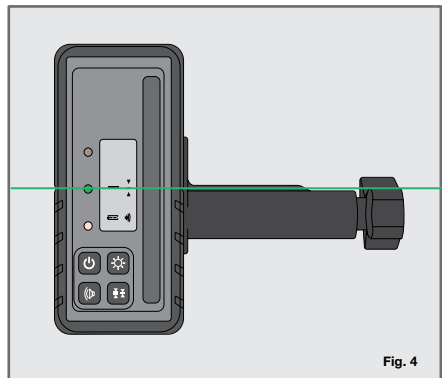

Fig. 4
- The direction arrows or level line on the LCD screen will indicate the position of the laser beam. A digital increment display will indicate the position of the laser beam (Fig. 2 & 3). The detector will emit a constant beep once the level position has been located (Fig. 4).